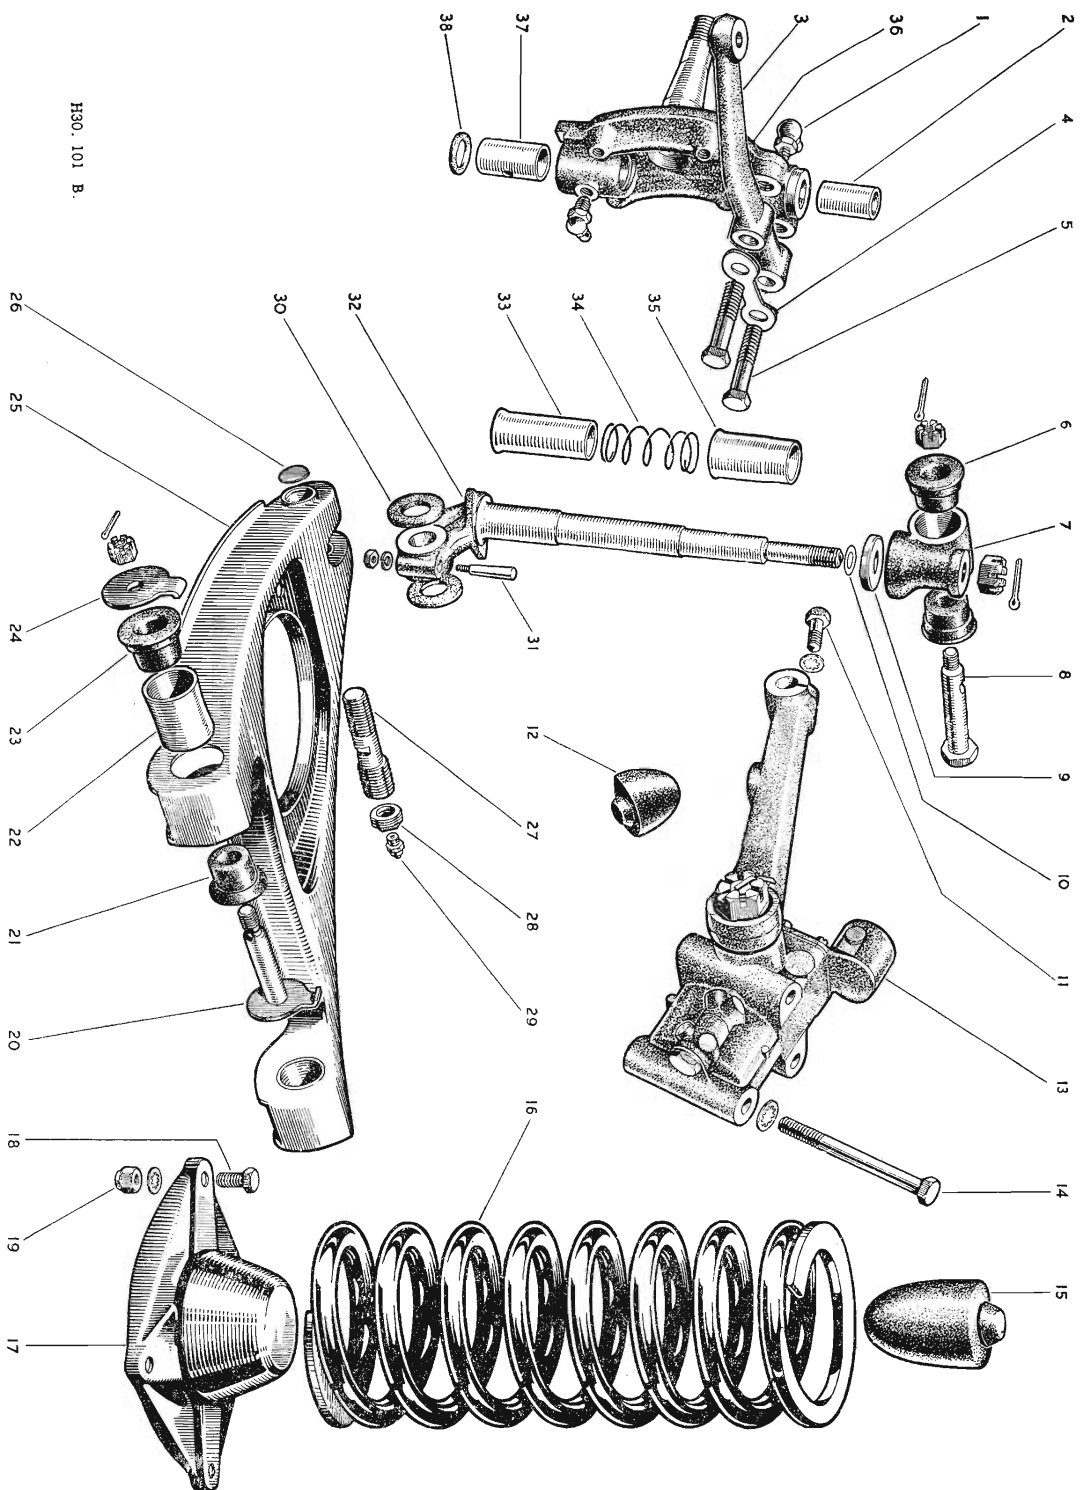

Fig. K.3 Exploded view of the front suspension
Caption to Fig. K.3.
- (5) Slip a new chamfered cork sealing ring over the swivel pin, chamfered end down, and smear the swivel pin with oil. Fit the two dust excluders and their spring in the order in which they are shown in fig. K.3 to the swivel axle. Screw the two oil nipples into the swivel axle. Slide the swivel axle on to the swivel pin and ensure that full lock is obtained on both sides. Place the phosphor bronze thrust washer over the swivel axle. Put an  $\cdot 008$ -in. shim ( $\cdot 008$ -in. ( $\cdot 2032$  mm.) and  $\cdot 012$ -in. ( $\cdot 3048$  mm.) shims available) on to the swivel pin, followed by the trunnion with its bore towards the hub when it is fitted. Tighten the castellated nut. Resistance should be just felt when the swivel axle is moved from lock to lock and there should be no vertical movement of the swivel axle. Increase thickness of the shims to loosen and remove to tighten, depending on whether there is too much or too little thrust.
- (6) Now fit the back plate assembly to the swivel axle. The flexible brake hose is to the rear and the bleeder nipple pointing to the front. The backplate is secured by four setscrews and shakeproof washers. Finally fit the hub, as explained in Section K.7, and the brake drums.